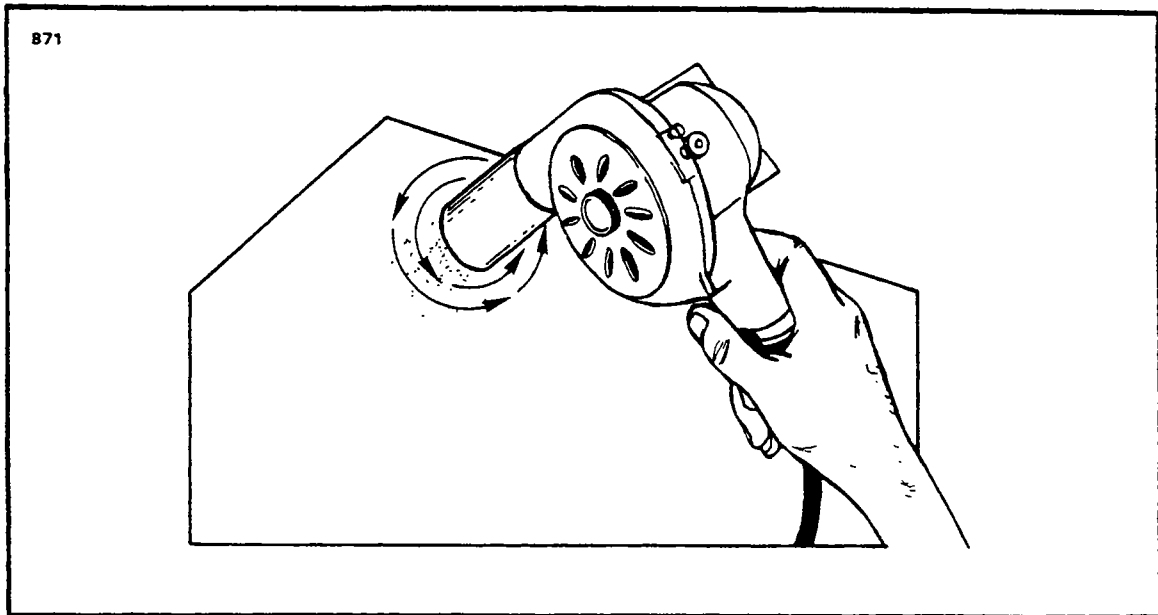

Figure 4-11. , Surface Scratches, Abrasions or Ground-in-Dirt
- b. Surface Scratches, Abrasion or Ground-in-Dirt: (Refer to Figure 4-11.)